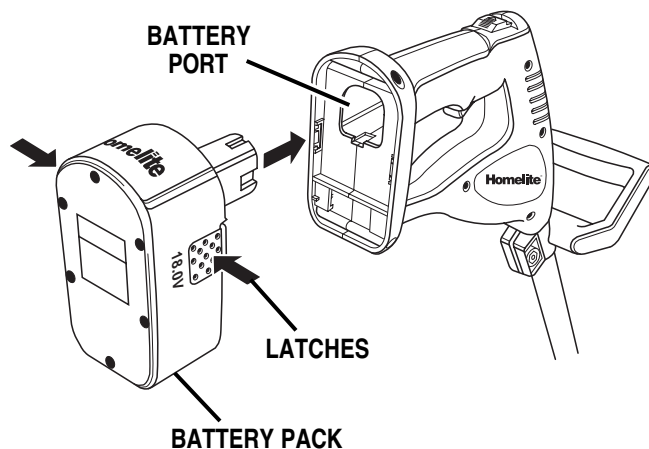

Fig. 7
- Place the battery pack in the string trimmer. Align raised rib on battery pack with groove in string trimmer's battery port. *See Figure 7.*
- Locate latches on side of battery pack and depress both sides to release the battery pack from the string trimmer. *See Figure 7.*